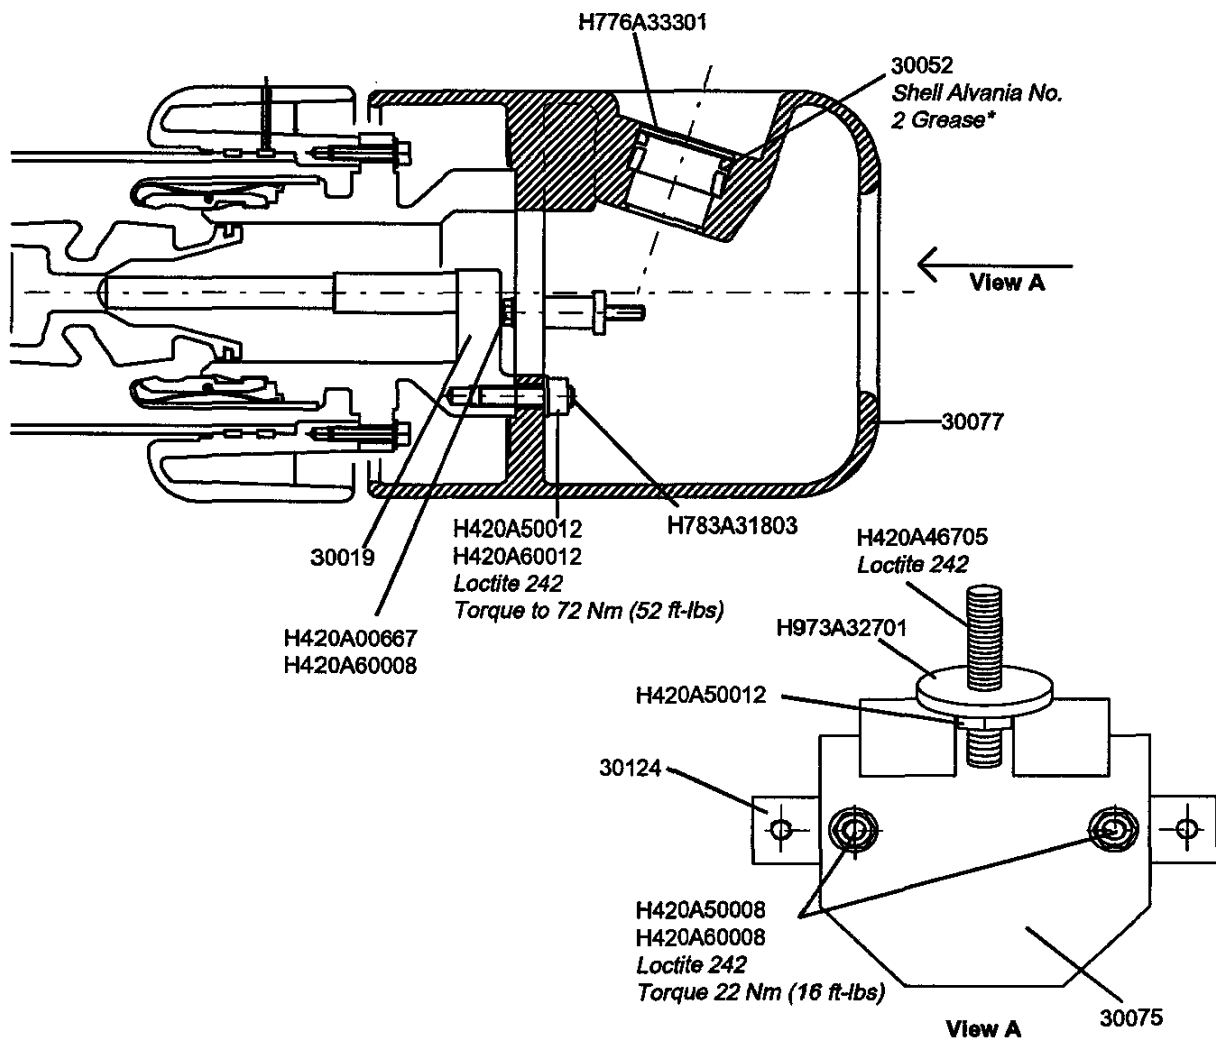
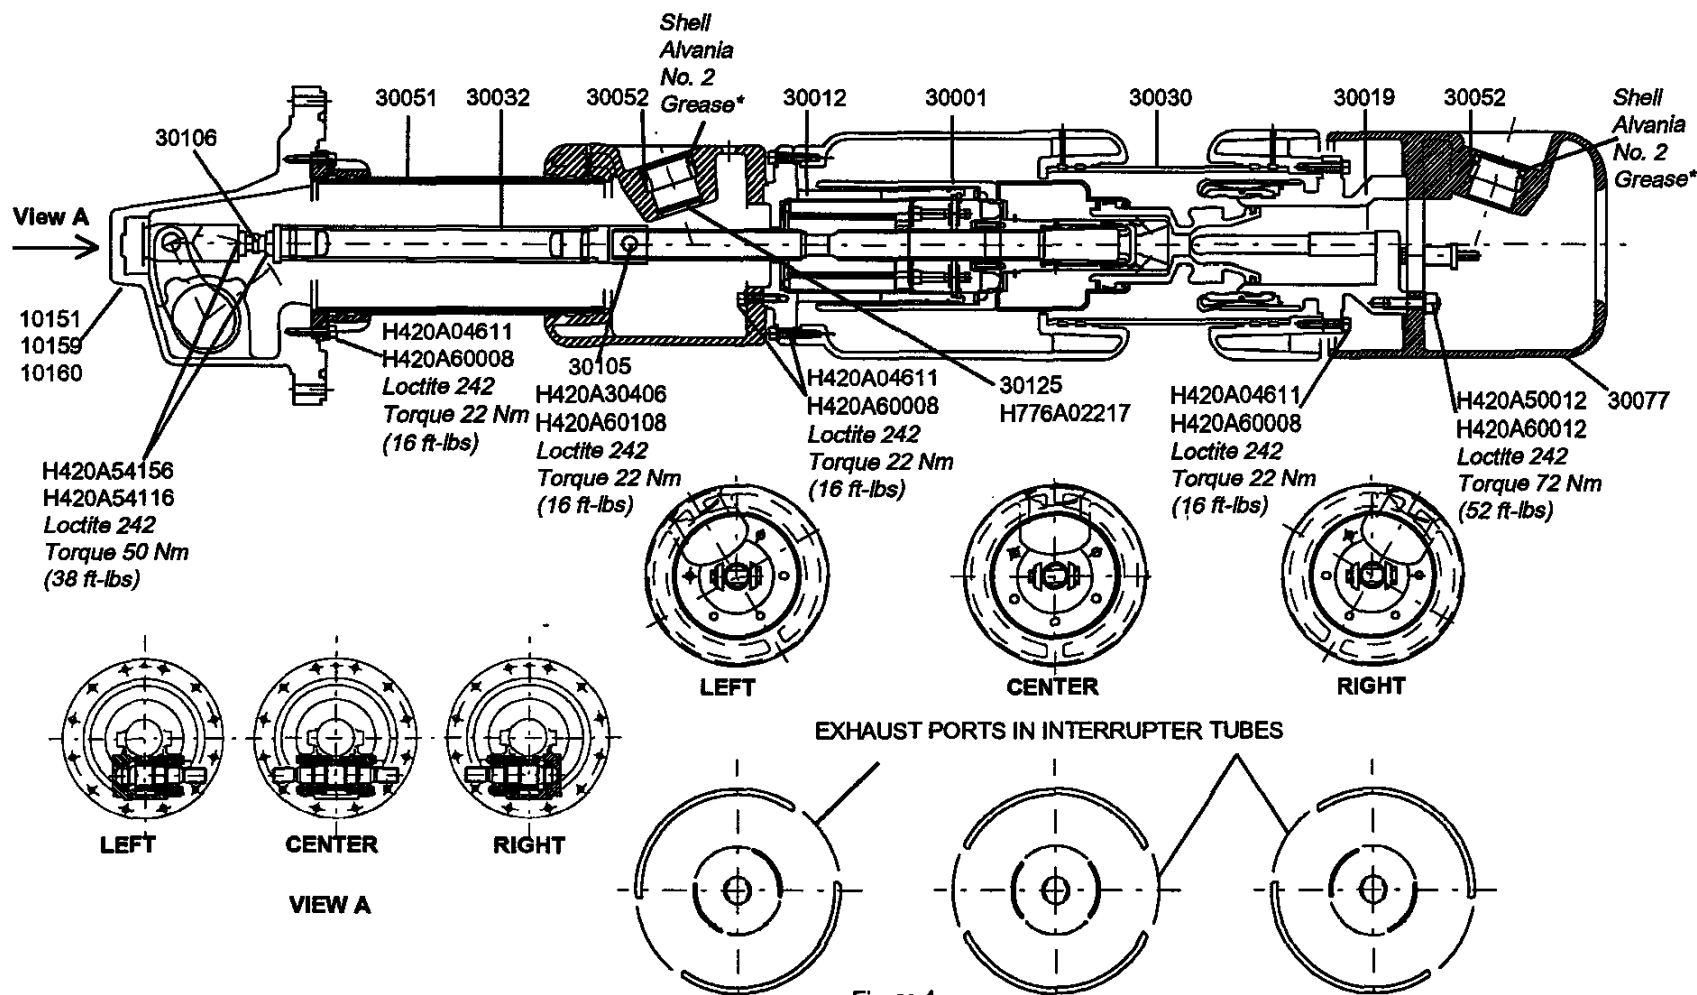
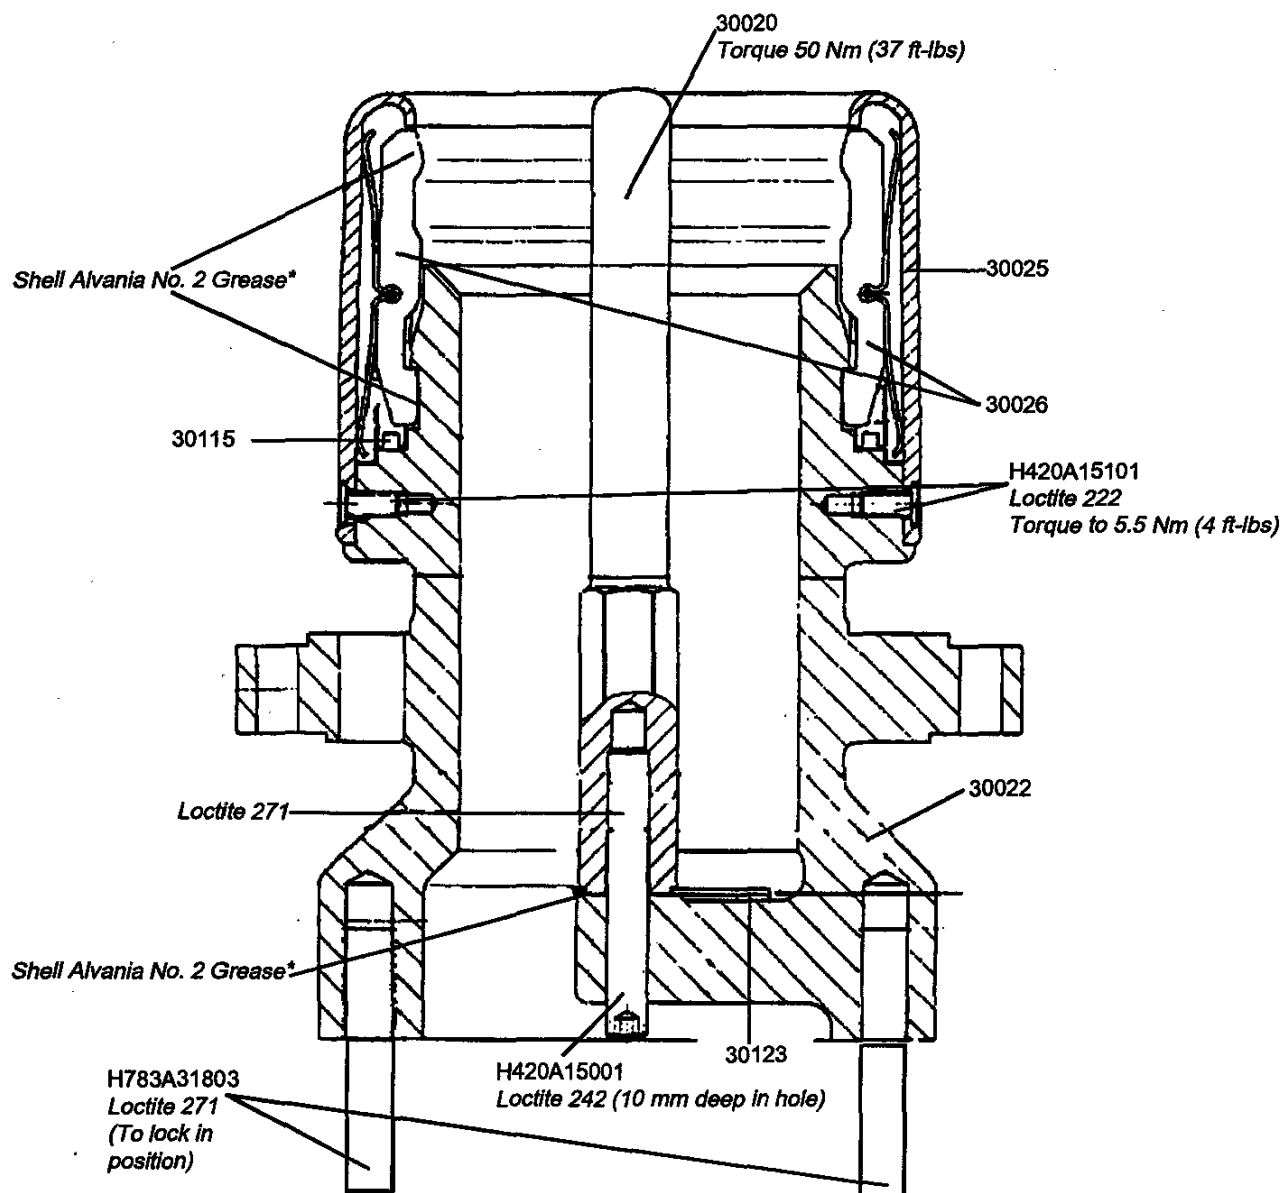

Figure 3
Figure 4
Figure 5
4. Check alignment of the operating pullrod using the special alignment tool T13440 (Fig. 13). Refer to Plate 49. Rotate the moving contact assembly 30001 (Fig. 4) clockwise using a wrench until the appropriate slots in the special tool align with the rod tools at both extremes of the pull rod's swing. The moving contact assembly must be turned clockwise to prevent damaging the multi-lam contact 30014 (Fig. 9). Refer to Plate 50.
5. When the operating pullrod is aligned, apply Loctite 242 on the threads of the pullrod coupling 30106 (Fig. 4) and install it to the calculated length. Refer to Plate 51.
6. Secure the pullrod coupling with M16 jam nuts H420A54116 RH (Fig. 4) and H420A54156 LH. Torque each jam nut to 50 Nm (38 ft-lbs).
8. Re-attach the bellcrank to the interrupter support tube 30051 (Fig. 4) using M8 socket head bolts H420A04611 and washers H420A60008. Apply Loctite 242 to each of the bolts and torque to 22 Nm (16 ft-lbs). (Remove the threaded rod tools during this step.)
10. To re-install the stationary contact assembly 30019 (Fig. 4):
- b. Lift the stationary contact assembly 30019 (Figs. 4 and 5) into the rear of the interrupter unit and firmly push it into position so that it fully engages the moving contact assembly (to ensure contact alignment). Be sure that the stud H783A31803 (Fig. 3) located closest to the base of the boss that supports the stationary arcing contact 30020 (Fig. 5) is aligned opposite the plug-in connections 30052 (Fig. 3) for the bushing conductors.
- c. Install the M8 socket head bolts H420A04611 (Fig. 4) and washers H420A60008 to secure the stationary contact assembly. Apply Loctite 242 to each of the bolts and torque to 22 Nm (16 ft-lbs). Refer to Plate 52.
11. Re-install the rear exhaust shield 30077 (Fig. 4) using M12 nuts H420A50012 and washers H420A60012. Hand-tighten the nuts. (Final tightening will be done when the interrupter unit is re-installed in the pole tank.)